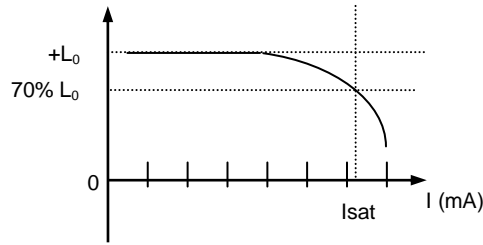

Fig. 5.3.4-1
2. Definition of Saturation Current (I_{sat}) : I_{sat} is the value of DC current as inductance L (μH) decreased just 30% against initial value (see Fig. 5.3.4-1).